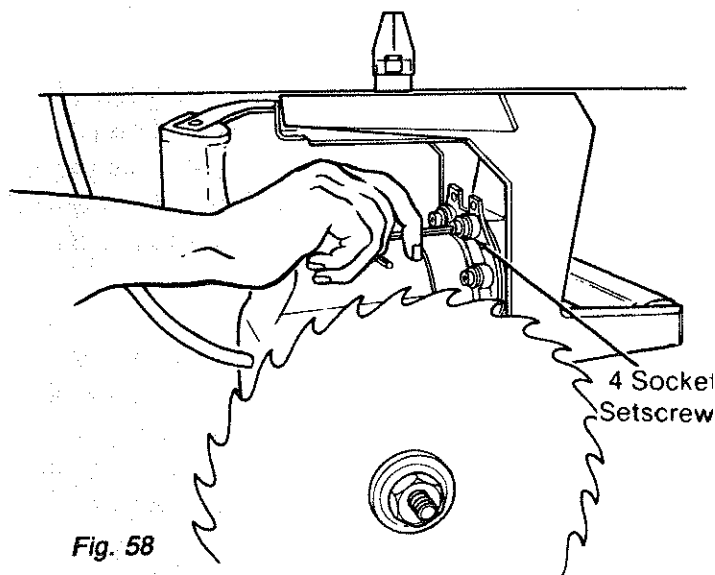

Fig. 58
7. Loosen the four screws behind the *yoke* using a 3/16 inch hex-L wrench. (Figure 58)